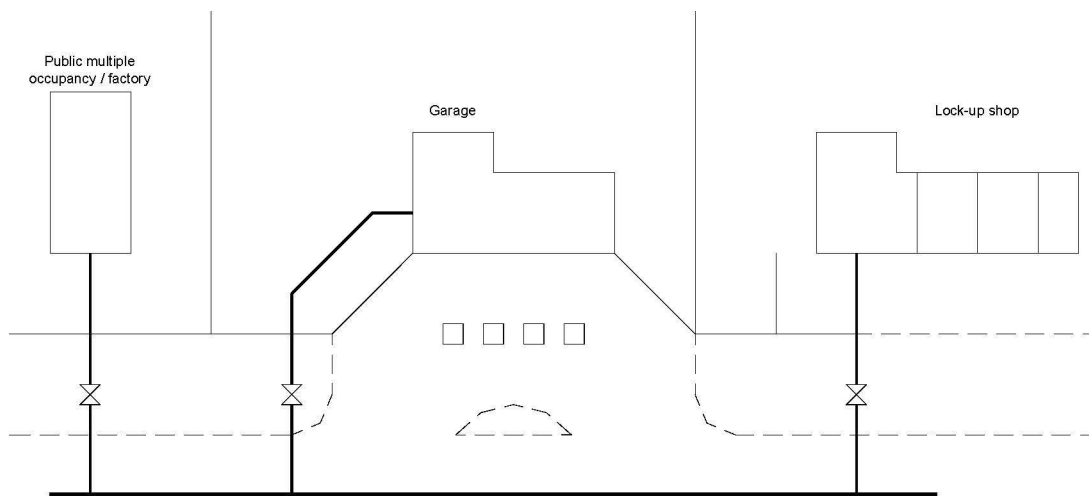

Figure C4 - Service Isolation Valve location
3. Service isolation valves shall be installed in an accessible position as near as possible to the property boundary and clearly indicated with a surface cover marked G or GAS (Figures C4 & C5).